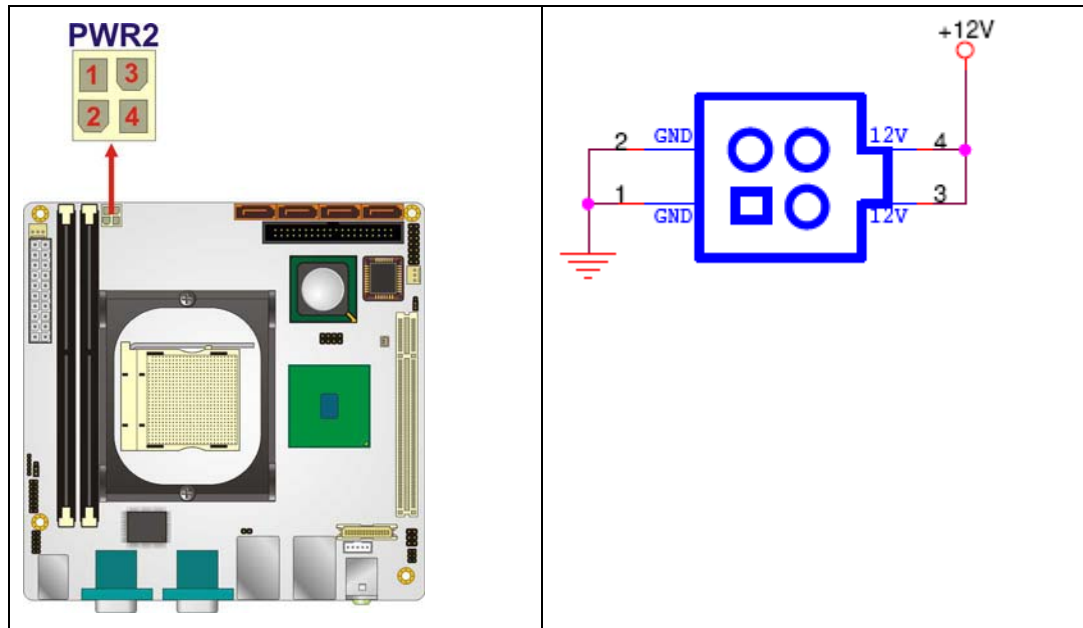

Figure 4-3: ATX Power Connector (4-pin) Location
- CN Location:** See **Figure 4-3**